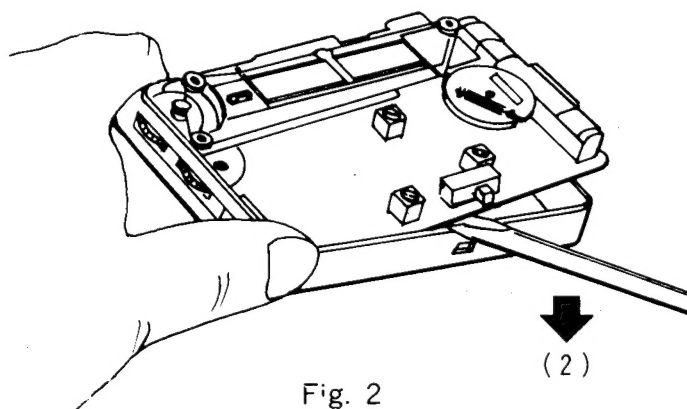

Fig. 2
1. Pull out the PC Board with driver. in the direction of arrow (2) as shown in (Fig. 2)